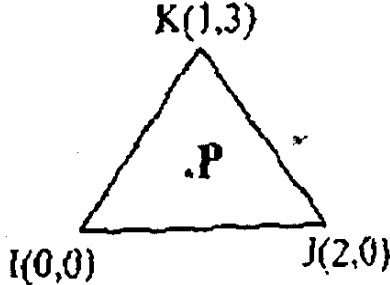

figure 3.1
1. Find the temperature at a point $P(1,1.5)$ inside a triangular element shown with nodal temperatures given as $T_i = 40^\circ\text{C}$, $T_j = 34^\circ\text{C}$ and $T_k = 46^\circ\text{C}$. Also determine the location of the 42°C contour line for the triangular element shown in figure 3.1.